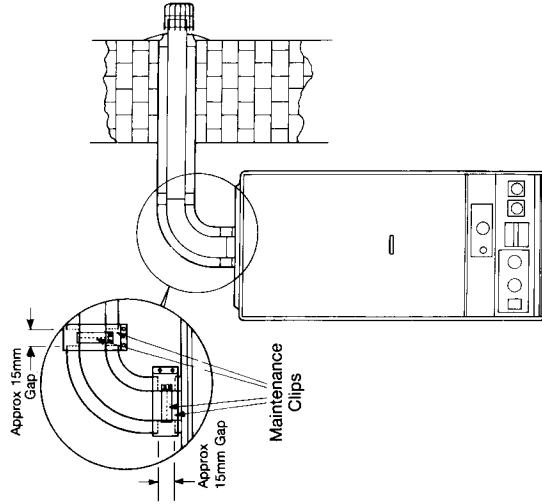

Fig. 43
- Remove screws on large maintenance clips (fig 43) and remove clips, loosen screws on the small clips and remove flue elbow.